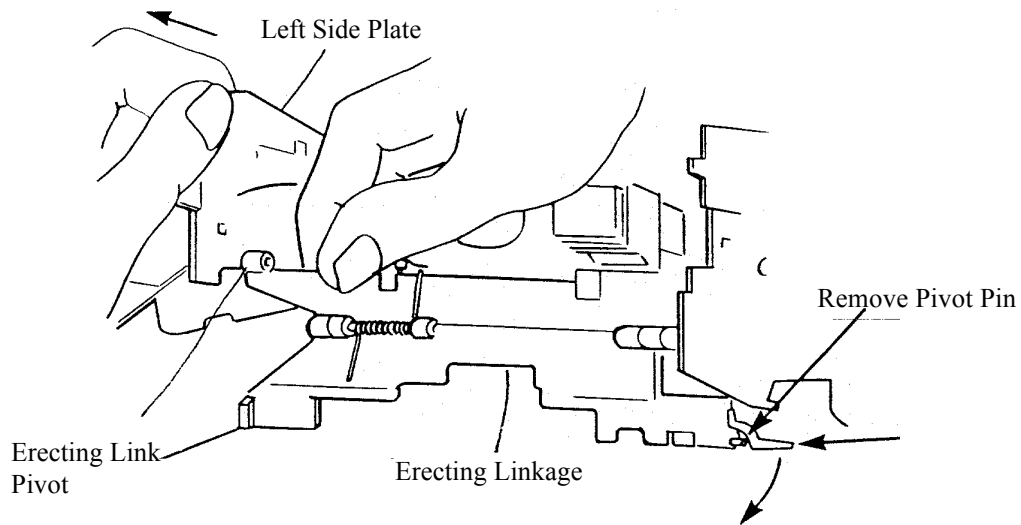

Figure 4-24 Removing Erecting Linkage from Main Frame
- b. Grasp Upper Erecting Link as shown in Figure 4-24. Push left sideplate of Cone outward to free pivot socket from pivot pin on Cone.